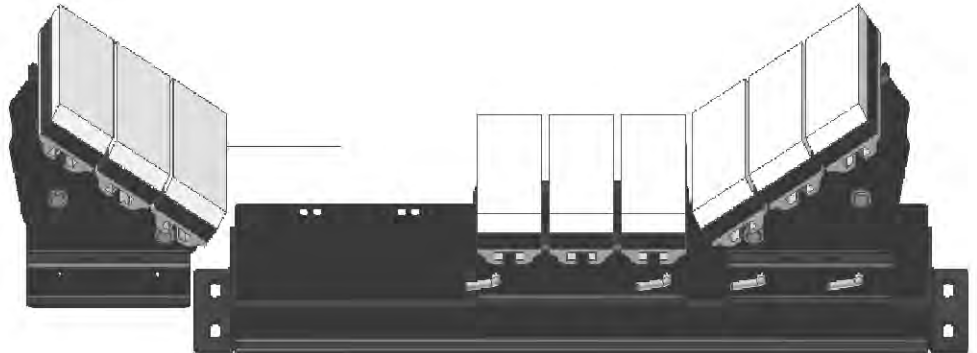

Figure 7.
- 3.)** The Adjustable Troughing Wing Section can now be carefully slid off the Base Frame (see Figure 7).